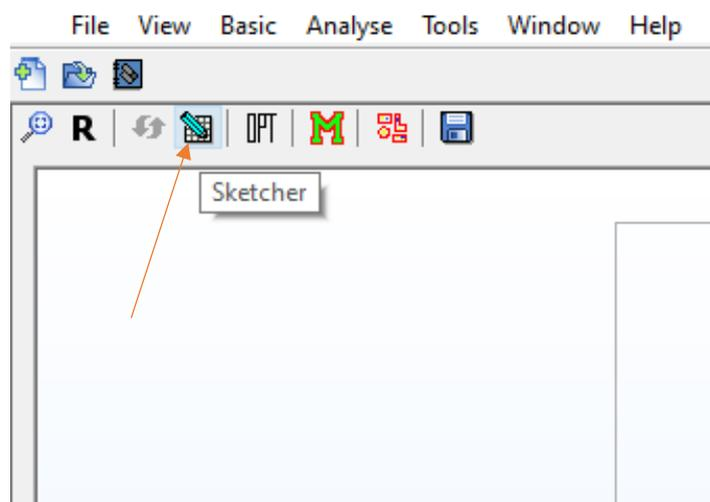

Figure 408
- Open sketcher by using the shortcut **S** or click the sketcher pencil button on the Main Toolbar  (Figure 408).